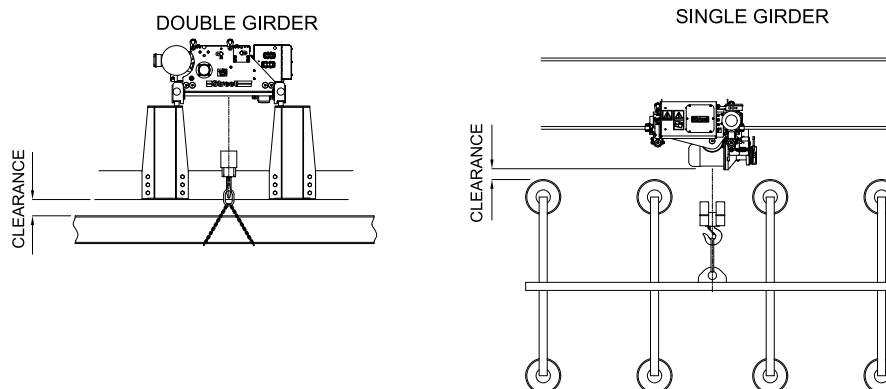

Figure 44 – Clearances to consider when lifting
18. Ensure that adequate clearance is maintained between the load or lifting attachment and the hoist or crane structure. See Figure 44.